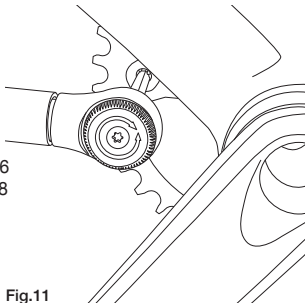

Fig.11
- Use a torque wrench to tighten the screws to 8 Nm (71 in.lbs) (Fig. 11).